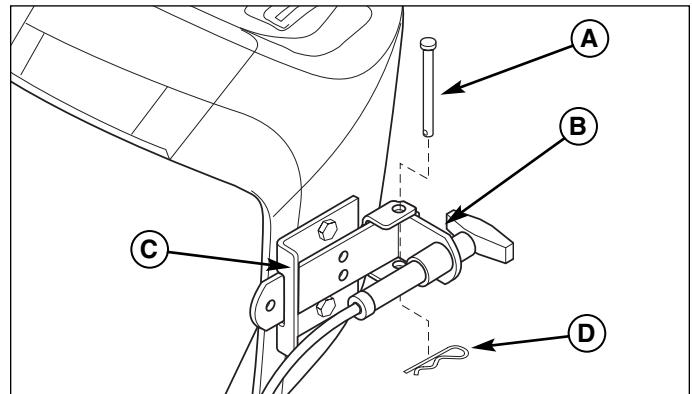

Figure 21. Install Remote Deflector Control
1. Using the template included in the back of this manual, drill two 9/32" holes in the dashboard to mount the remote deflector control bracket (C, Figure 21). See template at the back of this book for instructions.
1. Insert the deflector control handle (B, Figure 21) into the mounting bracket (C).
3. Secure the handle (B, Figure 21) using a clevis pin (A) and hair pin clip (D).